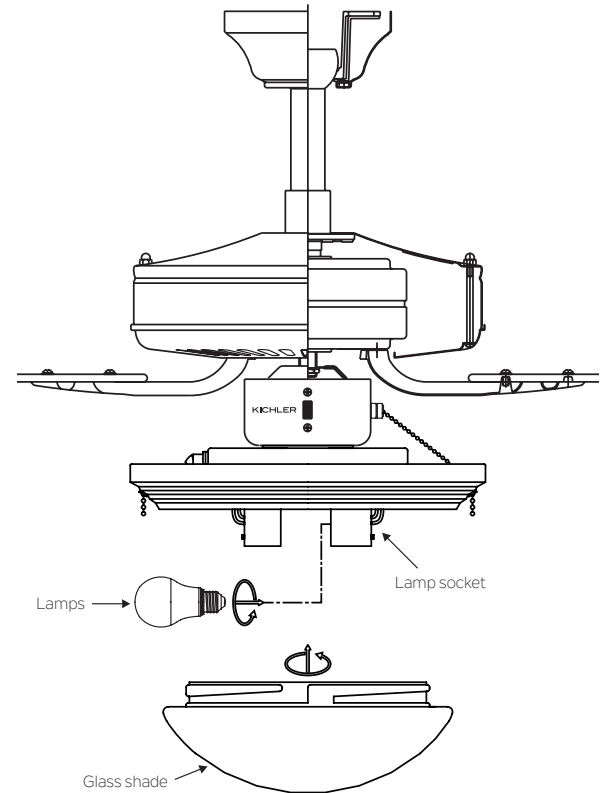

Fig. 3
1. Install both of the 9 watt E26 LED lamps (provided), one in each fixture socket. (Fig. 3)
2. Attach the glass shade to the light fixture by turning the glass shade clockwise. **DO NOT OVER TIGHTEN.** (Fig. 3)